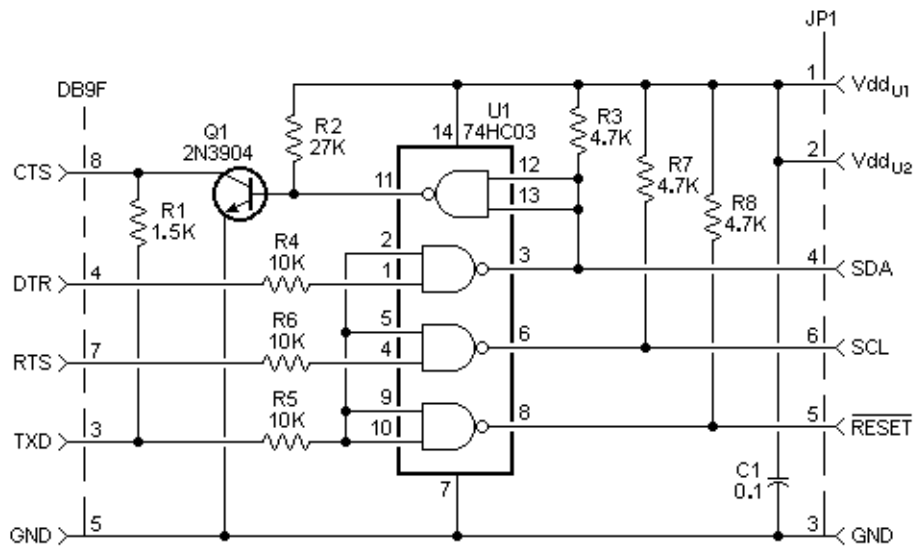

Figure 10. Schematic of Serial Interface
6. HOW IT WORKS. For those who are curious and able to understand it, Figure 10 shows a schematic of the interface. There's no UART chip used because the design doesn't rely on conventional serial communications.